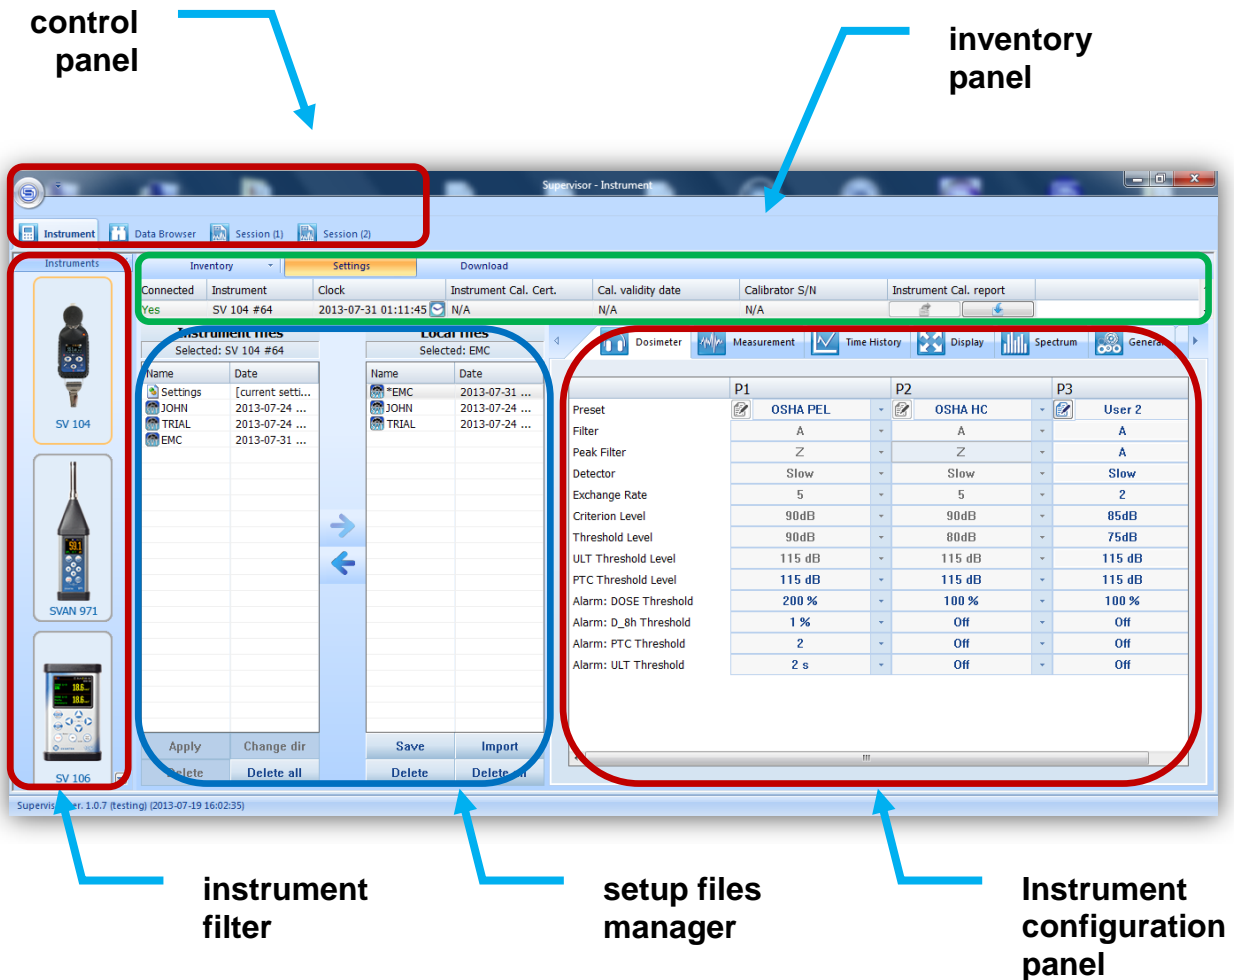

Figure 5-2 Supervisor main window
Click the **SV 104IS** instrument icon in the left “Instrument filter” Panel (see Figure 5-2) to get access to the devices.
3. Select the just copied **“Settings”** with a click: this will display quite a few configuration tabs on the right side so called Instrument configuration panel of the main **Supervisor** window (Figure 5-2)